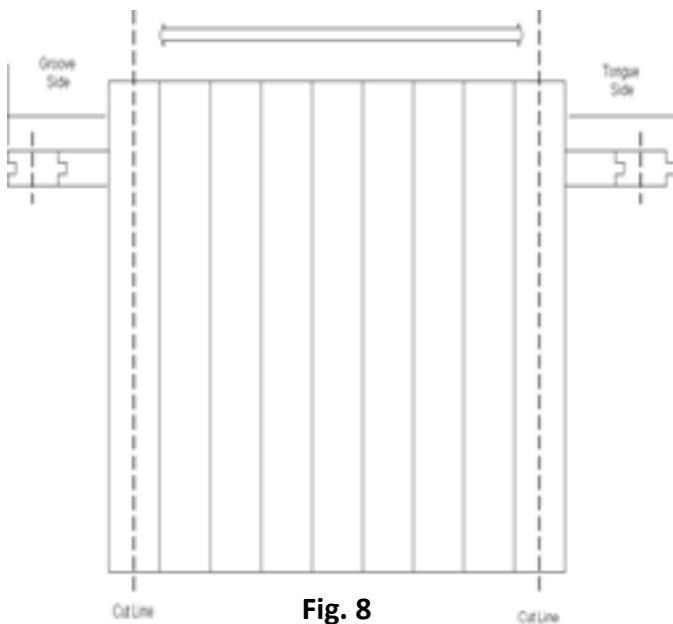

Fig. 8
Step 2. In some situations, it may be necessary to shorten a section of the fence. If post spacing is less than 6' on center, you may need to cut equal amounts off of the grooved side of the picket on one end of the panel and the tongued side of the picket on the opposite end (Fig. 8).